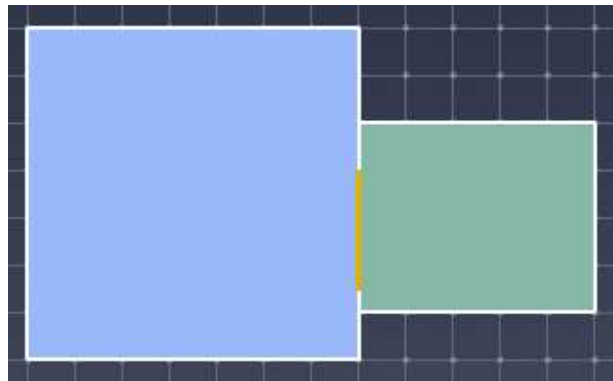

Figure 52. Adding a thin door to connect the rooms
3. The created door will appear as a thin, orange line in the 3D and 2D views as shown in Figure 52.